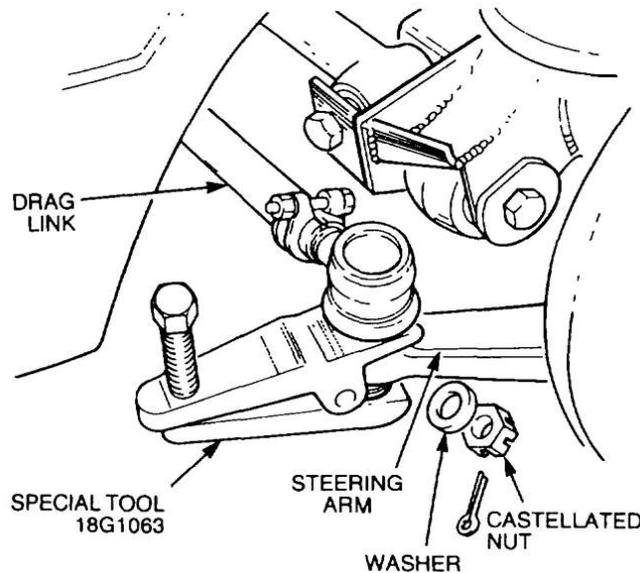

Figure 111 Removal of the Drag Link
- m. Remove the split pin, castellated nut and washer securing the drag link to the steering arm. Using special tool 18G1063, disconnect the drag link (Figure 111) and discard the split pin.